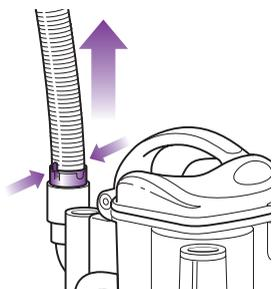

Fig. 28
- Detach the stretch hose from the back of the portable *Lift-Away*® canister by squeezing the tabs together and pulling up. (Fig. 28) Straighten out the hose and look inside for blockages.